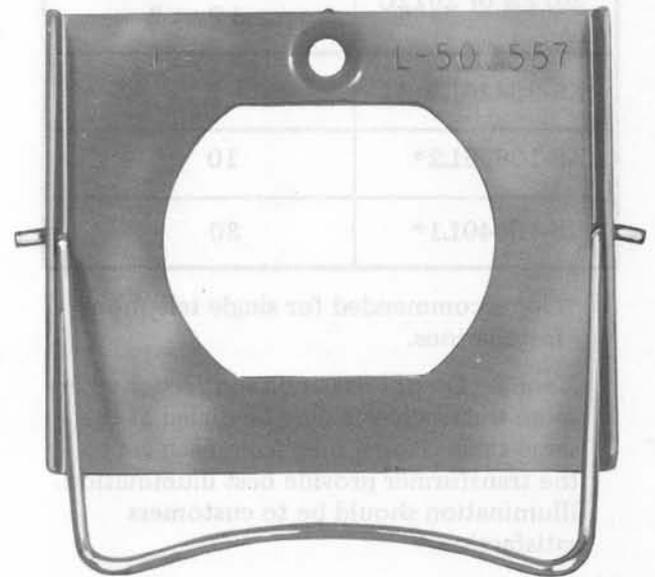

Fig. 13—Clamp for Mounting Early Version KS-20426L3 Transformer Not Equipped With Molded Mounting Tab
5.02 The transformer is self-protecting with an automatic thermo switch and is provided with primary terminals in the form of parallel blades which serve as the mounting device. If furnished, the clamp (Fig. 13) must be used to hold the transformer securely in the receptacle.
Danger: For safety, securely attach retaining clamp to ac outlet using outlet cover screw BEFORE attempting to install KS-20426L3 transformer. See Fig. 13. When removing KS-20426L3 transformer, always unplug the power unit completely from the outlet BEFORE attempting to remove the retaining clamp. This will prevent the possibility of a loosened retainer clamp or metallic outlet cover making contact with the ac prongs of the KS-20426L3 transformer when partially withdrawn from outlet. Do not use KS-20426L3 transformer retaining clamps on outlets where the cover mounting screw holds the duplex outlet in the box.